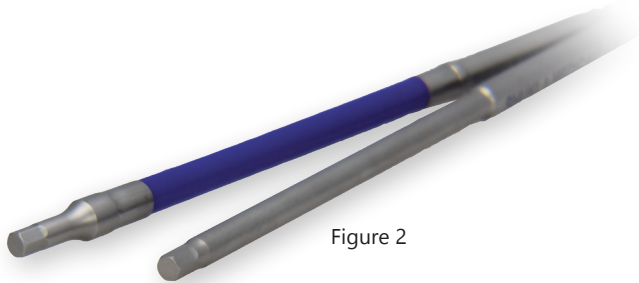

Figure 2
- 2 Choose solid or flexible driver style. (Fig. 2)